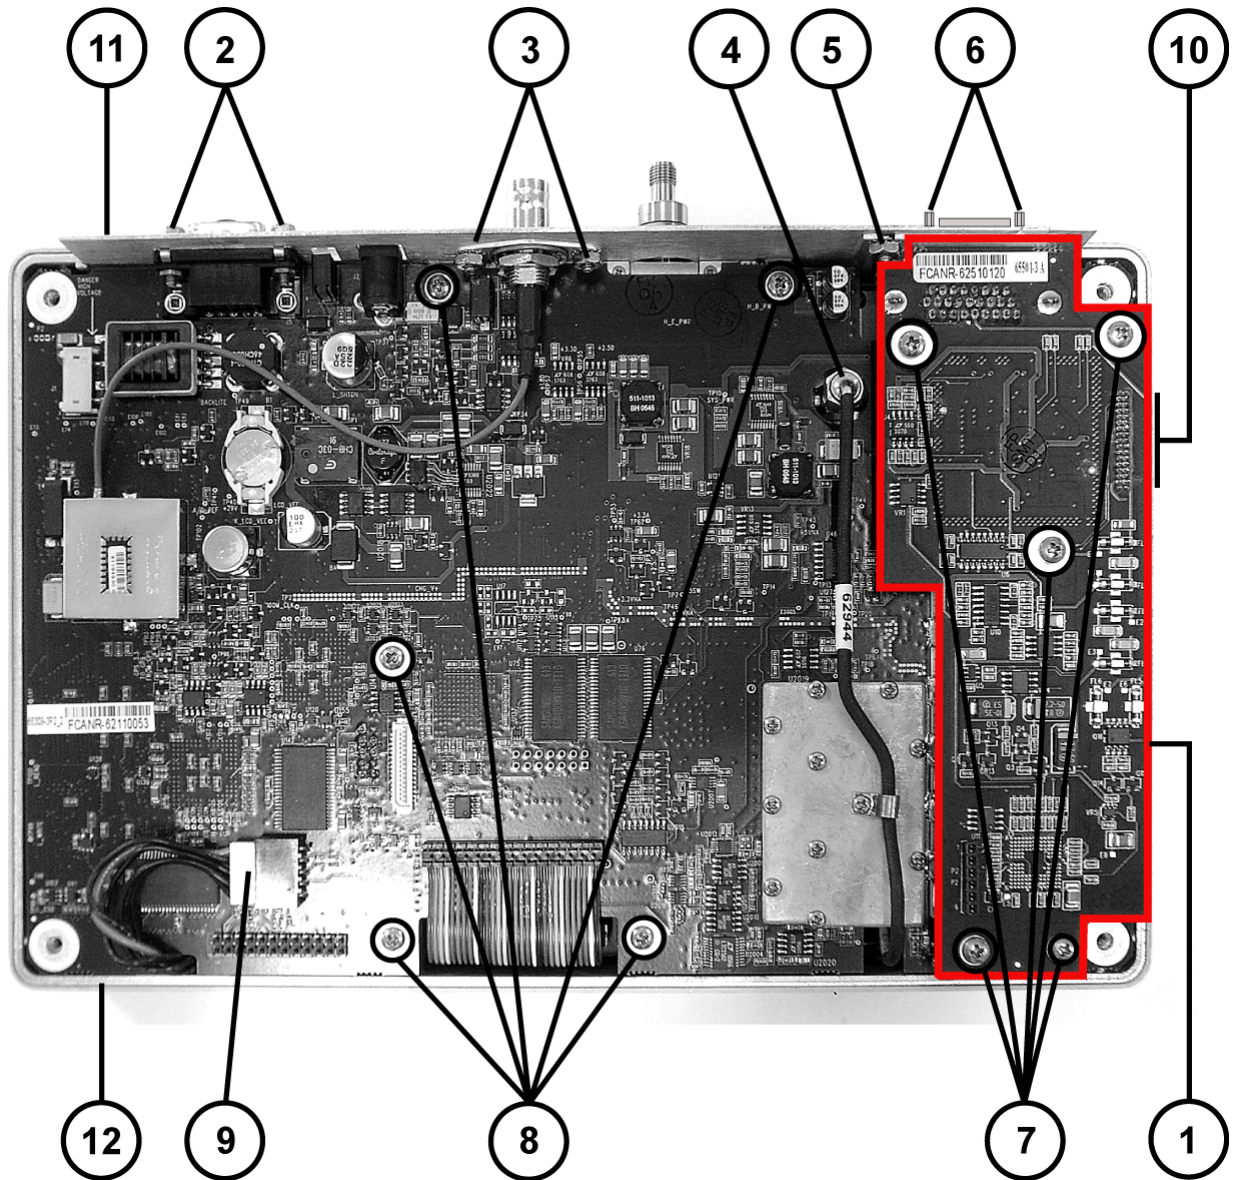

Figure 3-12. Main PCB Assembly and Option 22 CW Source Control PCB Assembly
Table 3-6. Callout Index for Figure 3-12, “Main PCB Assembly and Option 22 CW Source Control PCB Assembly”
3. Outside the case, remove two (2) hex standoffs from the RS-232C DB-9 (m) connector (Figure 3-12 #2).
4. Inside the case, remove two (2) 6-32 keps nuts from the GPS connector (Figure 3-12 #3).
5. Disconnect the semi-rigid coaxial cable SMA connector from the RF PCB. Leave the cable in place (Figure 3-12 #4).
6. Remove the 6-32 keps nut holding the Connector Adapter Plate in place. The plate will be loose but not removable at this point (Figure 3-12 #5).
7. Outside the case, remove two (2) hex standoffs from the Option 22 CW Source DB-26 (m) connector (Figure 3-12 #6).
8. Inside the case, remove five (5) 6-32 Phillips mounting screws holding the Option 22 CW Source Control PCB assembly in place (Figure 3-12 #7).
9. Remove five (5) 6-32 Phillips mounting screws holding the Main PCB assembly in place (Figure 3-12 #8).
10. Disconnect the battery connector from J7 on the Main PCB (Figure 3-12 #9).
12. Gently lift the bottom edge of the Main PCB assembly closest to the ribbon cable (Figure 3-12 #11) and gently pull towards the bottom of the case. The goal is to create clearance between the Connector Panel and the Main PCB assembly.
13. Gently lift the Connector Panel assembly (Figure 3-12 #12) and pull it towards the top of the instrument. The goal is to create more clearance between the Connector Panel and the DB-26 connector on the Option 22 CW Source Control PCB assembly.